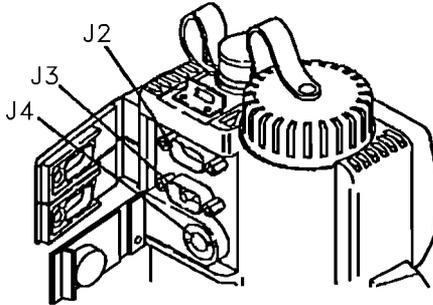

Figure 8-6 J2/J3/J4 Connector Covers.
- a. Locate J4 connector cover (refer to Figure 8-6) and use a knife to cut away adhesive securing the mud flap to the PLGR. Remove mud flap from the PLGR.